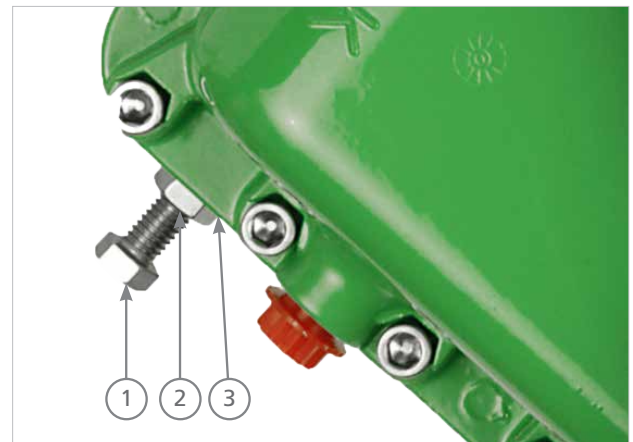

Figure 7: Setting angular stroke.
9.2.1.1 Setting of the 'closed valve' position (see Figure 7)
9.2.1.2 Setting of the 'open valve' position (see Figure 7)
9.2.2.1 Setting of the 'open valve' position (see Figure 7)
9.2.2.2 Setting of the 'close valve' position (see Figure 7)
9.2.3 Fail to close actuator (see Figure 7)